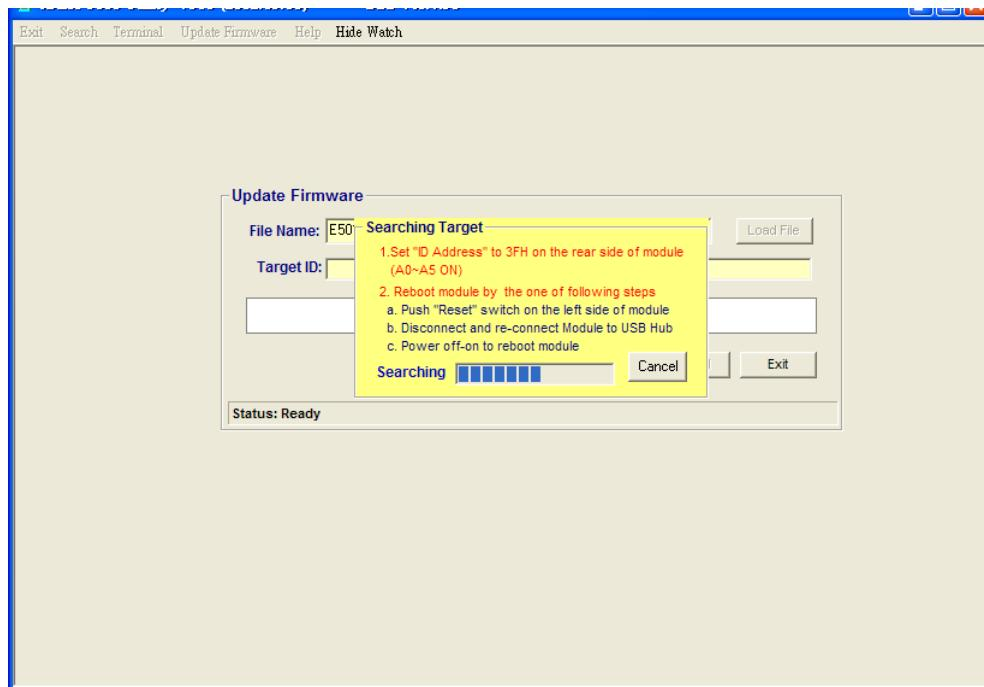

Figure -8
8. The Utility is searching module. Power-off /on the module or press “Reset button” at the down side of the module to **reboot** the module. (see Figure -8)